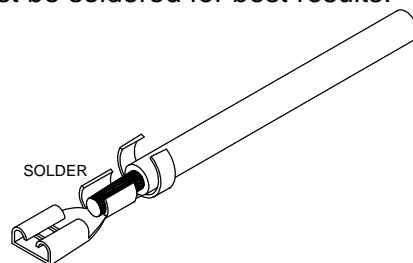

FIG 5
- Use the supplied 1,5mm² wire to make the connections. For best results, solder the female push-on connector (fig 5). Apply enough heat, in order to make a good solder joint.
Use the supplied female push-on connectors (fig 5) and solder them onto the wires !
length of yellow/green striped wire and 2 female push-on terminals. Make sure you solder both terminals. (See fig 5)